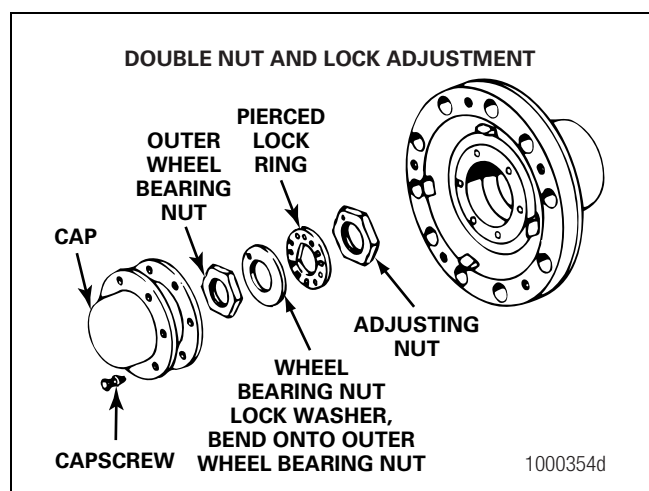

Figure 7.2
7. **On double nut and lock fasteners:** Bend the lock washer off the wheel bearing nut. Remove the wheel bearing nut, the lock washer and the pierced lock ring. Figure 7.2.
- E. If the end play is to specification, bend the washer to at least one flat edge of the outer wheel bearing nut. Figure 7.2.